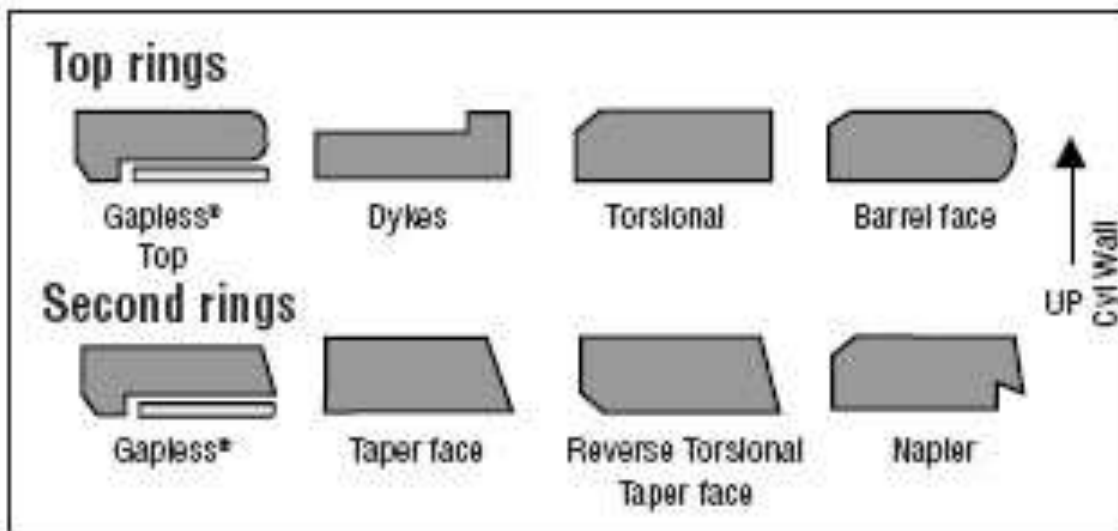

Figure 4
- Next install the Napier oil control ring. This is a torsional ring and will need to be orientated with the dot towards the piston crown. See figure 4 & 5.
- Install top ring last. This is a torsional ring and will need to be orientated with the dot towards the piston crown. See figure 4 & 5.